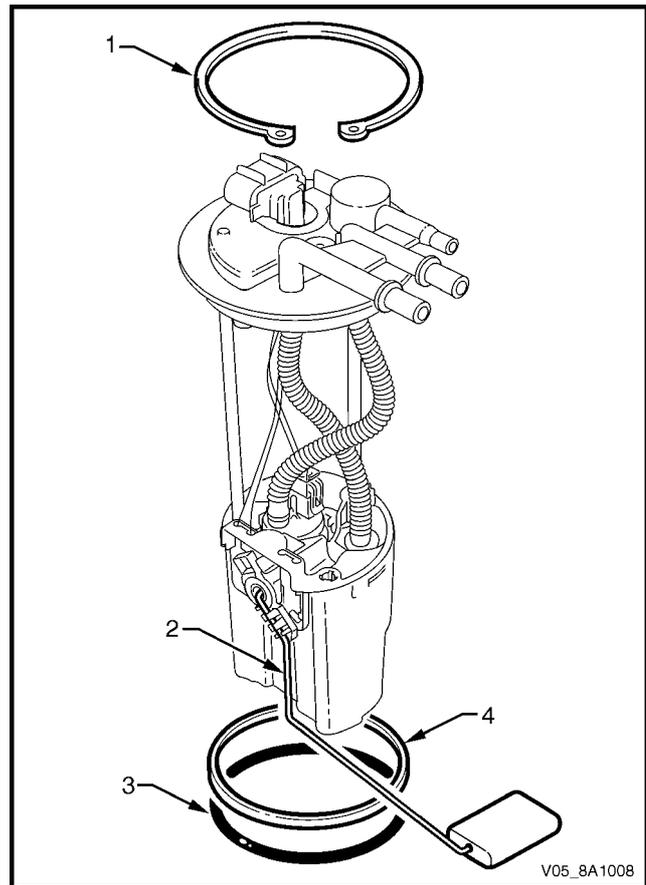

Figure 8A1 – 73
- 18 Remove the spacer (4) and place it in a safe location away from the immediate worksite, refer to Figure 8A1 – 73.
- 19 Remove and discard the O-ring (3).